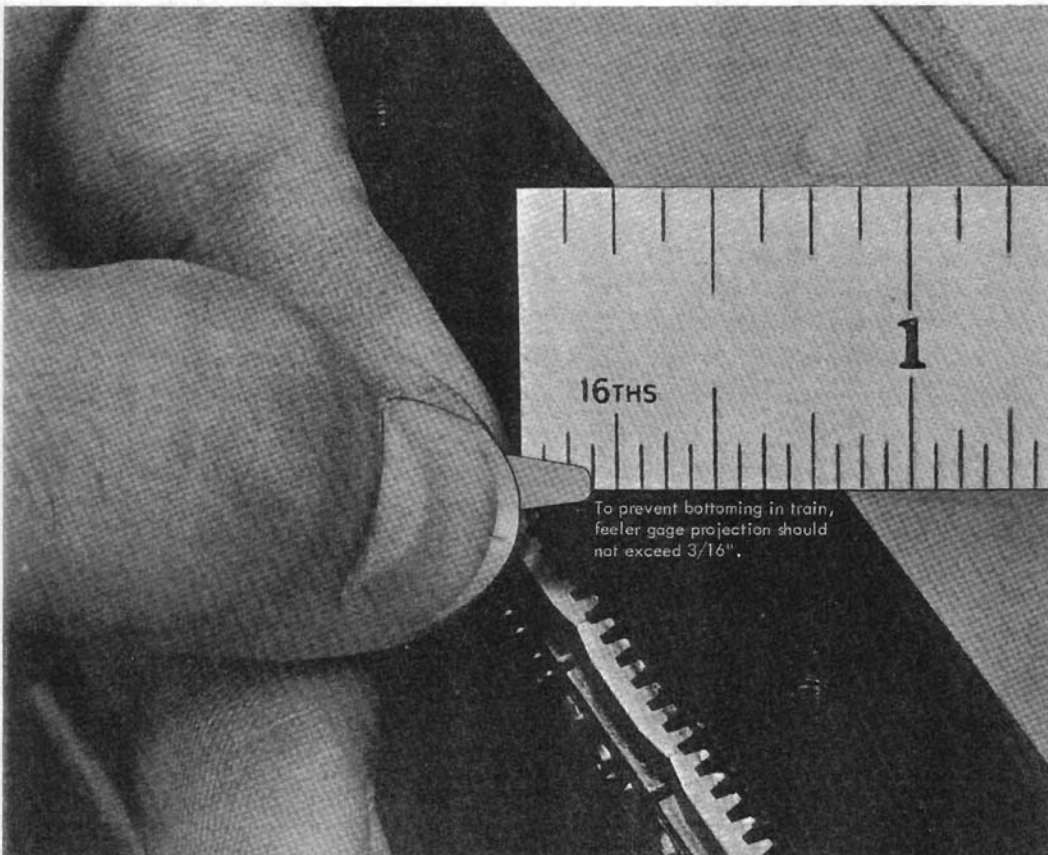

Figure 76. Checking Projection of Feeler Gage
2. Hold the feeler gage between your left thumb and forefinger so that the gage projects no more than 3/16" (Figure 76). This is to insure that the gage does not bottom against the track. Make sure the feeler gage is clean. Insert the gage in the separation made